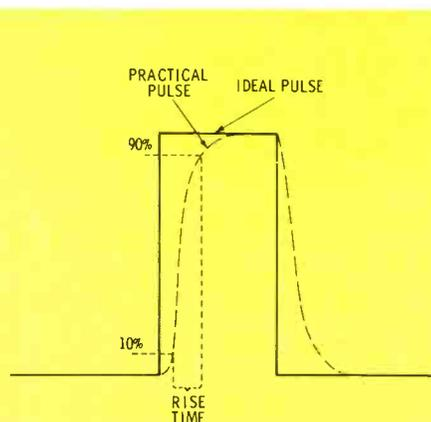

Fig. 20 Practical versus ideal pulse, showing rise time.
Sync pulses and other rectangular waveforms observed in TV circuits are not ideal, in that they have sloping sides. Waveforms with perfectly vertical sides exist only in theory. The slope of actual pulses is called rise time. We will find that rise time is related to circuit bandwidth. When a pulse is expanded on the screen of a triggered-sweep scope, as shown in Fig. 19, the rise time can be measured in terms of the calibrated time-base control setting. The difference between an ideal pulse and a practical pulse is shown in Fig. 20. Rise time (T) is measured between the points indicating 10% and 90% of maximum amplitude; this measurement standard eliminates corner effects, which are